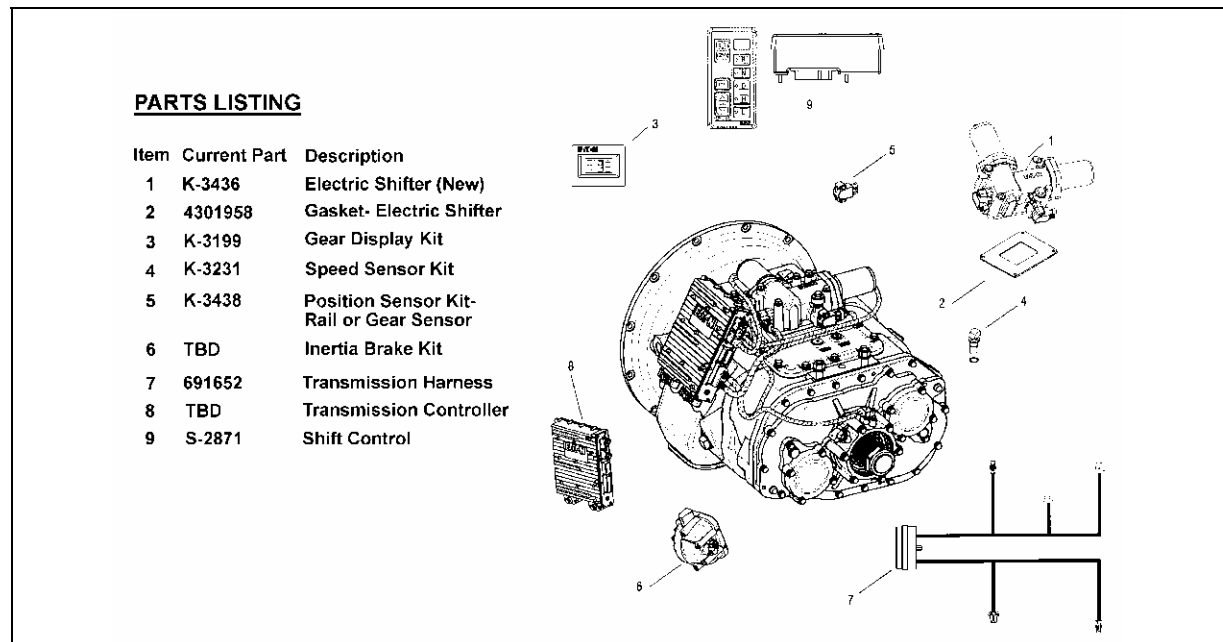

FIGURE 10: EATON TRANSMISSION MAIN PARTS LISTING
To gain access to the dipstick, open the engine compartment rear doors ; dipstick is located on the radiator side of the engine (Fig. 10).
4. Insert the dipstick into the tube and then remove, checking the oil level reading (Fig. 10). Repeat the check procedure to verify the reading. If the oil reading is within the "Cold Run" band, the level is satisfactory for operating the transmission until the oil is hot enough to perform a "Hot Run" check. If the oil reading is not within the "Cold Run" band, add or drain oil as necessary to bring the level within the "Cold Run" band.